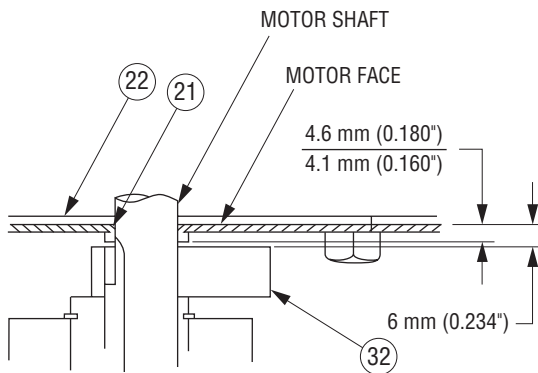

Figure A1 (8)
When reassembling the motor, refer to Figure A1 for the face seal seating dimension. Also, refer to this figure for setting the vertical position of counterweight (32).